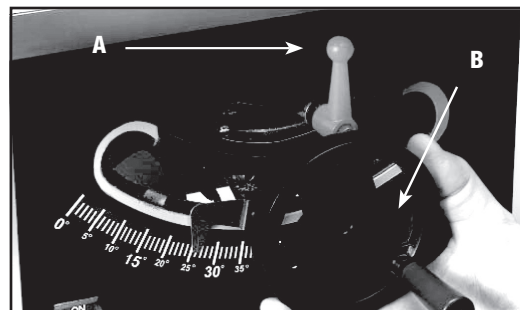
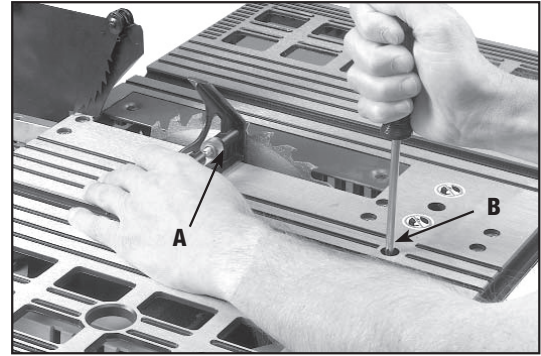
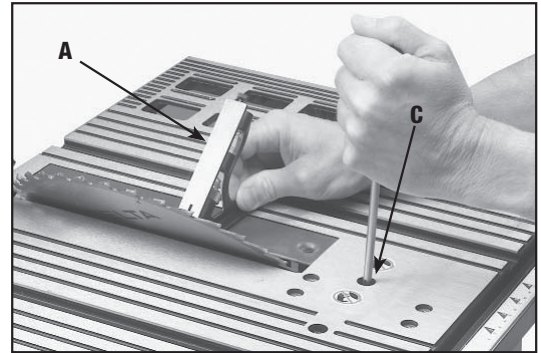

Fig. 30
Fig. 31
Fig. 32
To tilt the saw blade, loosen the lock handle (A) Fig. 30 and move the handwheel (B) until the blade is at the desired angle. Tighten the lock handle (A).
2. Loosen the blade tilting lock handle (A) Fig. 30, move the blade tilting mechanism (B) as far as possible to the left, and tighten the blade tilting lock handle (A).
3. Place a square (A) Fig. 31 on the table with one end of the square against the blade, and check to see if the blade is 90 degrees to the table. If not, loosen the screw (B) Fig. 31 a few turns and move the blade tilting mechanism until the blade is 90 degrees to the table. Tighten the blade tilting lock handle (A) Fig. 30, and tighten the screw (B) Fig. 31 until it stops.
2. Loosen the blade tilting lock handle (A) Fig. 31, move the blade tilting mechanism (B) as far as possible to the right, and tighten the blade tilting lock handle (A).
3. Place a square (A) Fig. 32 on the table with one end of the square against the blade, and see if the blade is 45 degrees to the table. If not, loosen the screw (C) Fig. 32 a few turns and move the blade tilting mechanism (B) Fig. 30, until the blade is 45 degrees to the table. Tighten the blade tilting lock handle (A) Fig. 30, and tighten the screw (C) Fig. 32 until it stops.